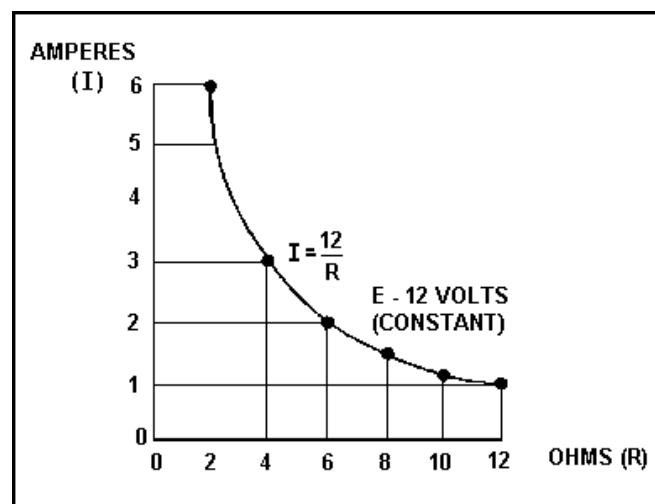

Figure 3-8.—Relationship between current and resistance.
When the voltage across a load is held constant, the current depends solely upon the resistance of the load. For example, figure 3-8 shows a graph with the voltage held constant at 12 volts. The independent variable is the resistance which is varied from 2 ohms to 12 ohms. The current is the dependent variable. Values for current can be calculated as:
*Q8. Using the graph in figure 3-8, what is the approximate value of current when the resistance is 3 ohms?*